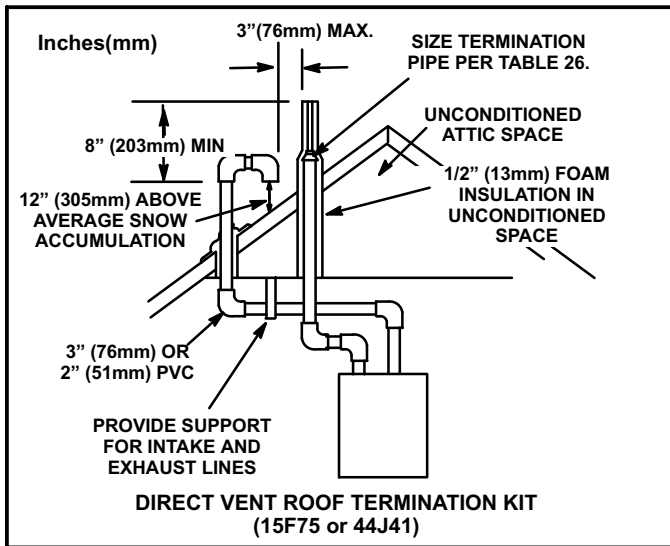

FIGURE 31
Intake and exhaust pipes may be routed either horizontally through an outside wall or vertically through the roof. In attic or closet installations, vertical termination through the roof is preferred. Figures 31 through 39 show typical terminations.
3. On roof terminations, the intake piping should terminate straight down using two 90° elbows (See figure 31).